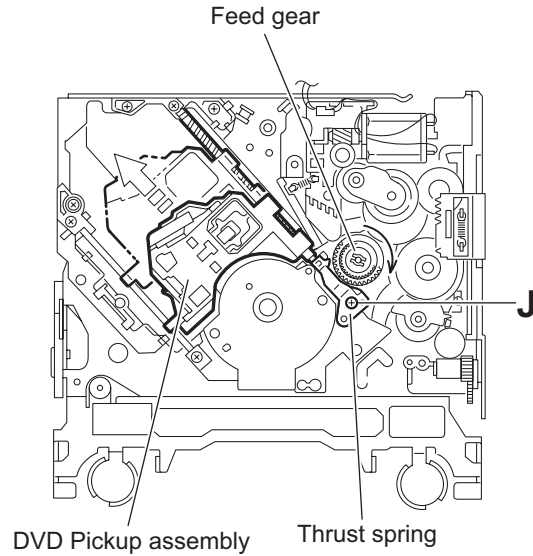

Fig.17
### 3.3.9 Removing the DVD pickup assembly (See Fig.17 to 19)
- (1) From the bottom of the body, turn the feed gear in the direction of the arrow to move the DVD pickup outwards. (See Fig.17.)
- (2) Remove the screw **J** attaching the thrust spring. (See Fig.17.)